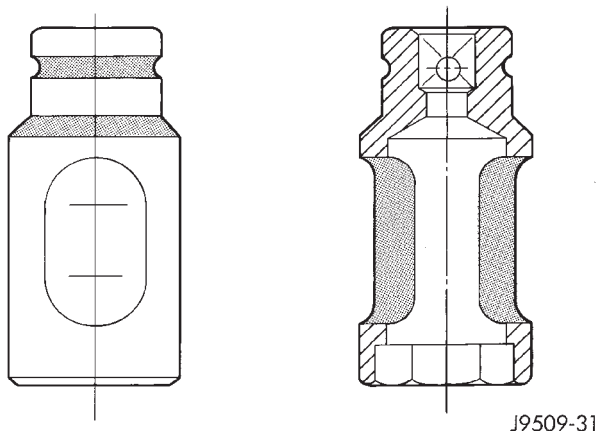

Fig. 18 Fuel Injector Tool VM-1012A
(25) Remove the injector sensor wire and the glow plug hot lead.
(26) Remove fuel lines, fuel filter, refer to Group 14, Fuel Systems.
(27) Remove injector fuel lines from injectors to pump.
(28) Remove fuel injectors with tool VM-1012A (Fig. 18) (refer to Group 14, Fuel System).
(29) Remove the engine cylinder head cover.